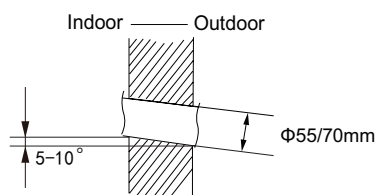

Fig.2
(2) Open a piping hole with the diameter of Φ55/70mm on the selected outlet pipe position. In order to drain smoothly, slant the piping hole on the wall slightly downward to the outdoor side with the gradient of 5-10°. (As show in Fig.2)